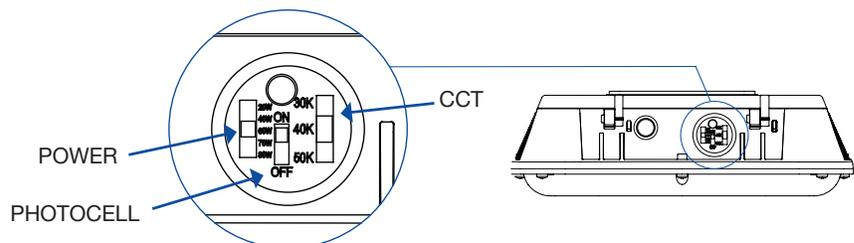

Fig. 2
2. Select the CCT, power, photocell ON/OFF, by sliding the respective switch to the desired position (Fig. 2).